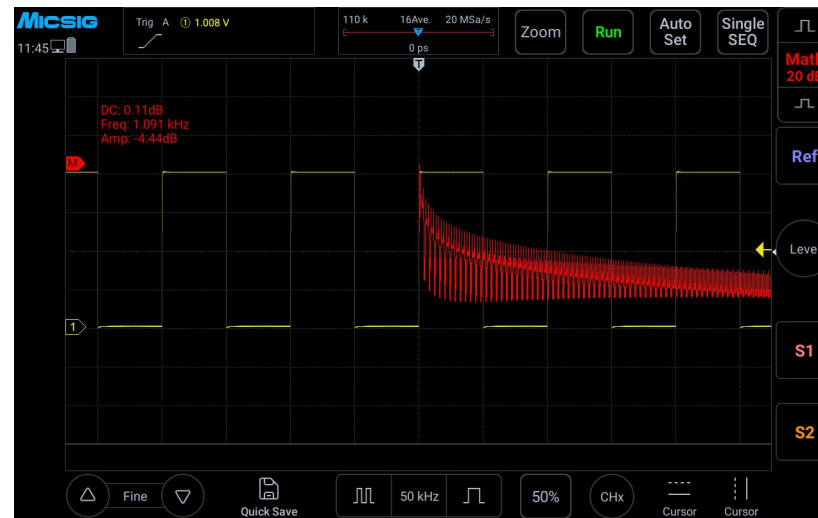

Figure 11-3 FFT Window
- 2) Tap  spectrum type “Line/Decibel” to open the FFT window (see Figure 11-3 FFT Window).